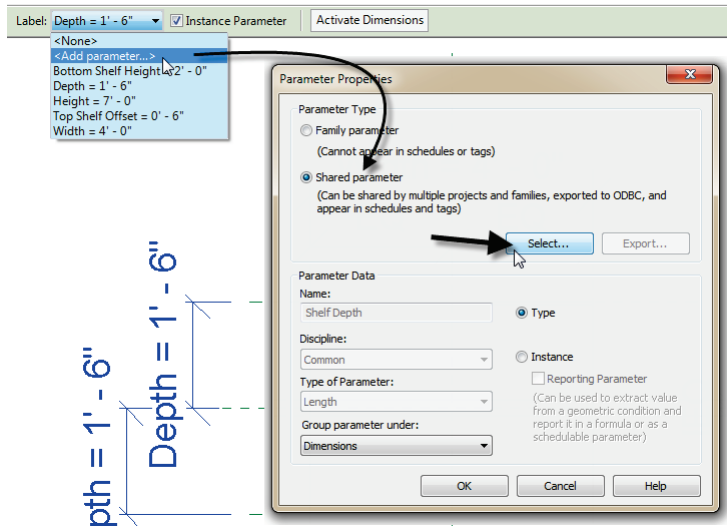

Figure 13—Shared Parameter added in a Family file
6. In the “Parameter Properties” dialog, choose Shared Parameter at the top and then click the Select button. Choose the Shelf Depth parameter and then click OK (see Figure 13).